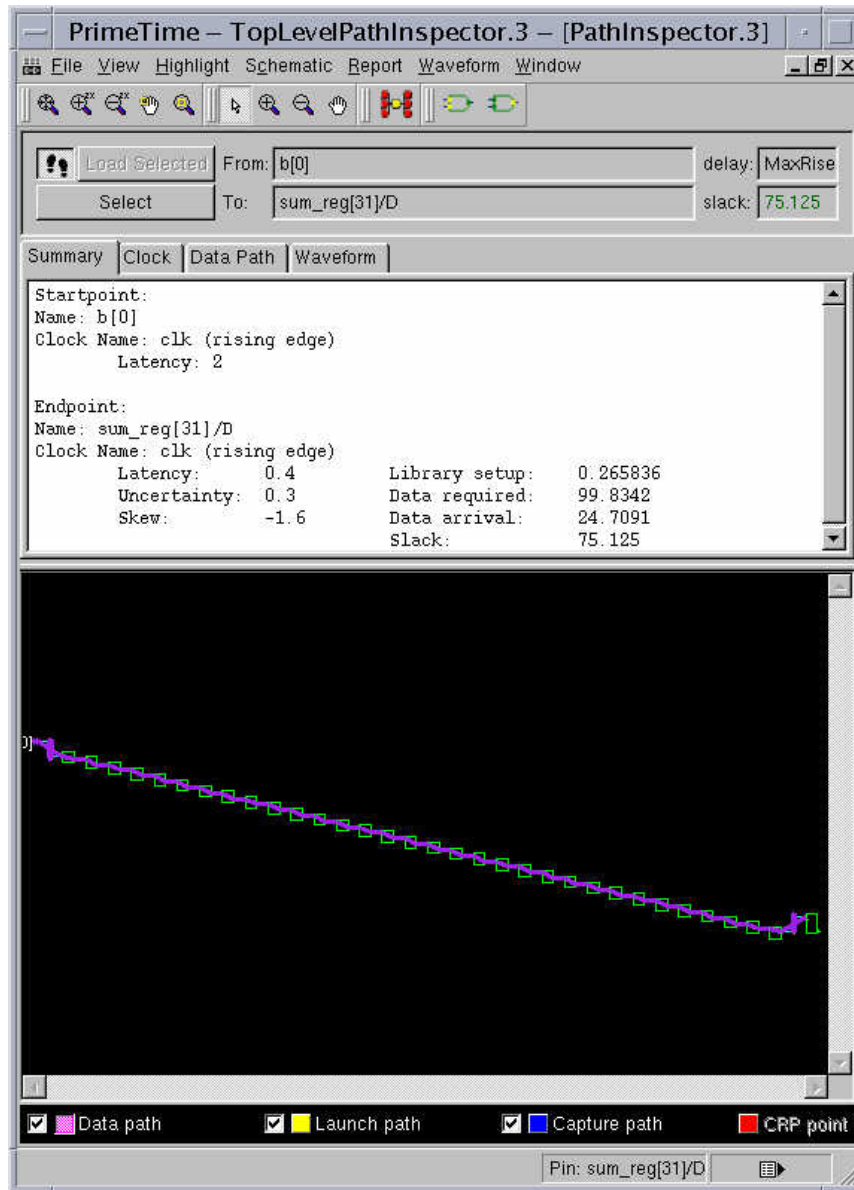

Figure 6-17 Path inspector window.
4. To investigate a path, highlight it, and then right click on your mouse and choose **Inspector for Worst Path to Selected Pin**. For example, highlight the top most entry on the right hand. The **PrimeTime TopLevelPathInspector** window appears, shown in figure 6-17.